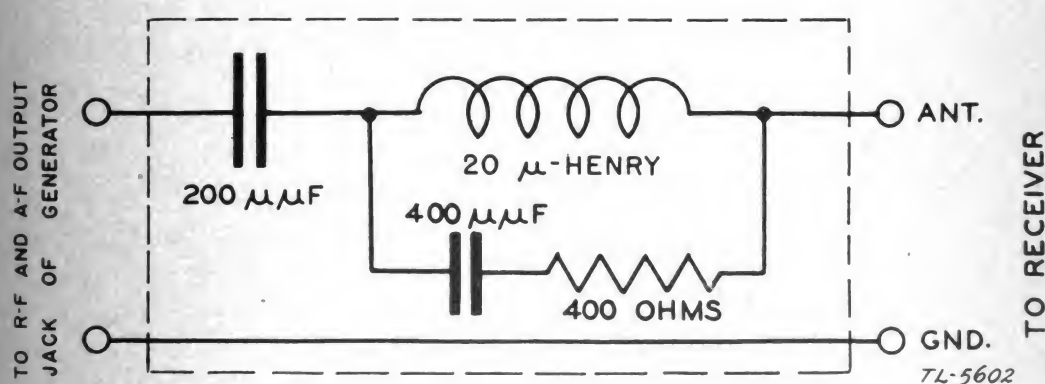

FIGURE 2.—I. R. E. standard dummy antenna—schematic diagram.
3. Preparation for use.—In alining the r. f. circuits of a receiver, some form of dummy antenna must be used to prevent undue reaction between the low output impedance of the signal generator and the input circuits of the receiver. Unless other instructions are contained in the maintenance instructions for the receiver being alined, the I. R. E. dummy antenna as shown in figure 2 may be used. This antenna may be built up by using 45 turns of No. 34 DSC wire, close-wound on a $\frac{1}{2}$ -inch form. This should give an inductance of $20\mu\text{h}$. One capacitor of $200\mu\text{f}$, one capacitor of $400\mu\text{f}$, and a 400-ohm noninductive resistor will also be required. The dummy antenna should be connected between the signal generator and the receiver as shown in figure 2.